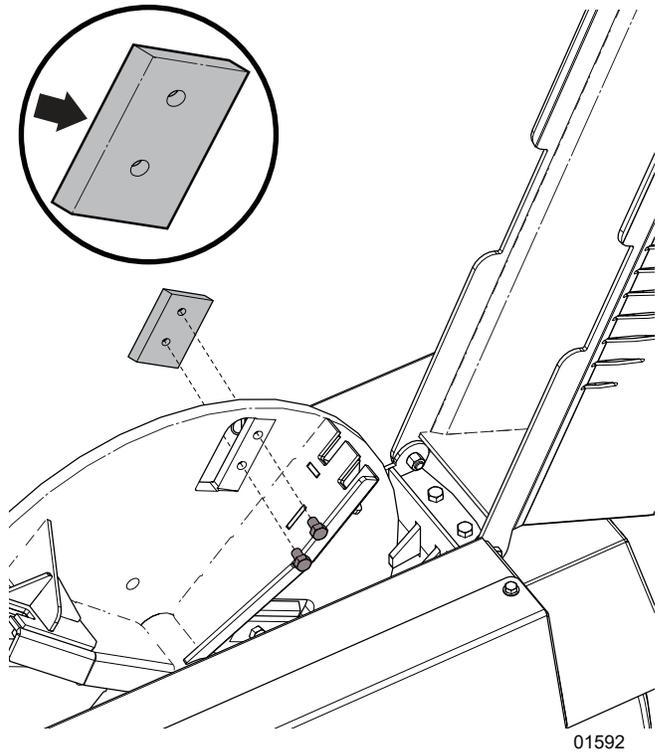

Figure 56—Install a rotor knife
10. Put the rotor knife in the recess and install the rotor knife fasteners. See *Figure 56* on page 75.